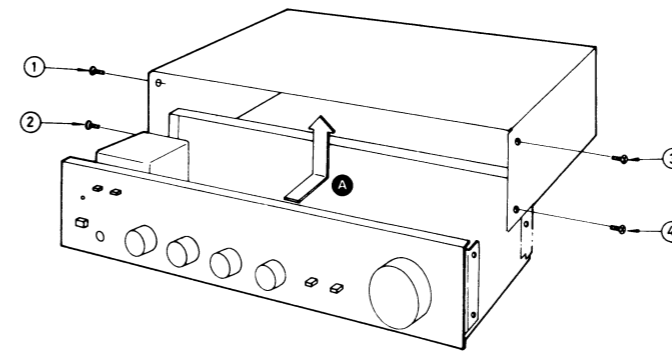
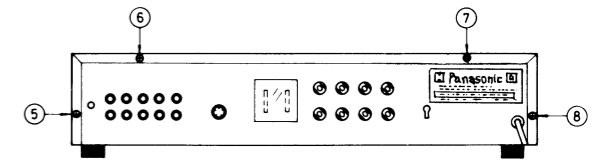

Fig. 1
Fig. 2
1. Remove the 4 setscrews (① ~ ④ in Fig. 1) on the side and 4 setscrews (⑤ ~ ⑧ in Fig. 2) on the back of the cabinet.
2. Shift the cabinet backward and lift it upward. (Arrow A in Fig. 1)